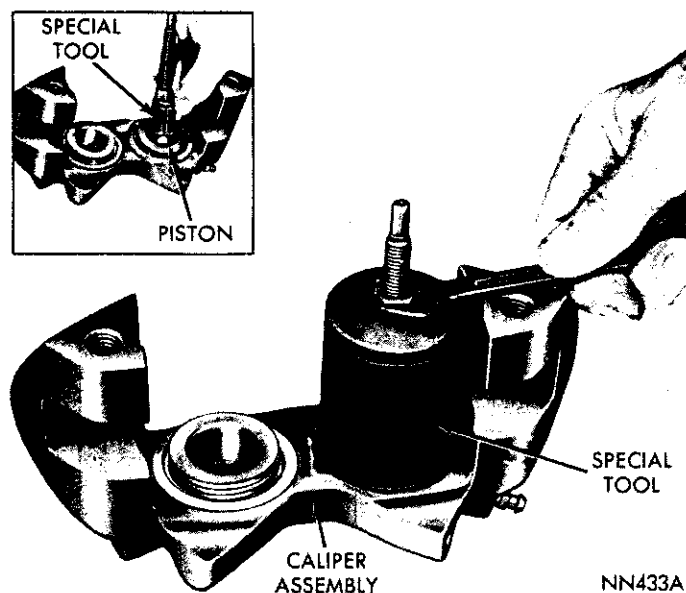

Fig. 11—Removing Pistons from Caliper
(6) Using Tool C-3999, remove each of pistons (Fig. 11). **Care must be used so as not to scratch, burr or otherwise damage piston on outside diameter.** To do so effects sealing qualities of piston. Draw piston straight out of its bore. If a piston becomes cocked, removal is more difficult and piston or bore may be damaged.